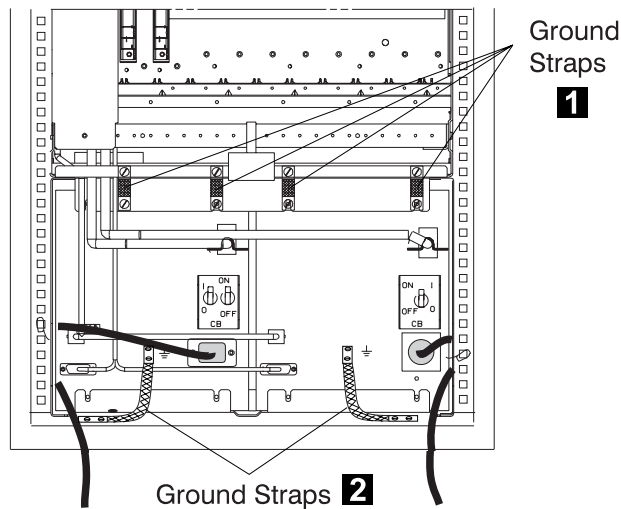

Figure 4-9. Ground Straps
**Note:** Other type of ground straps **2** can be installed on your machine, refer to Figure 4-9.
**Note:** Other type of ground straps can be installed on your machine, refer to Figure 4-9 on page 4-9.
- b. Wire (0) to the (+)